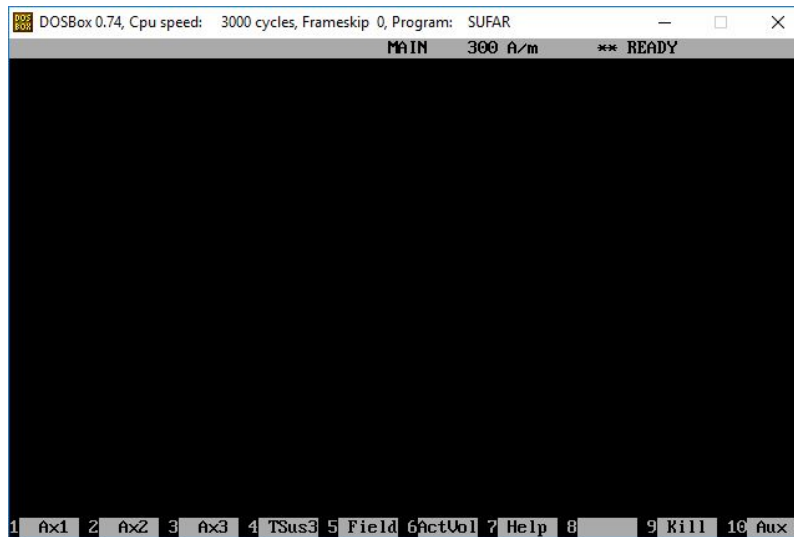

Figure 3b Main Sufar Window
2. From the Sufar Main window (**Figure 3b**), press **F1** to initiate Ax1 measurement
16. User will be returned to the Main Sufar window (Figure 3b). You may begin the next measurement now by repeating steps one through seven.